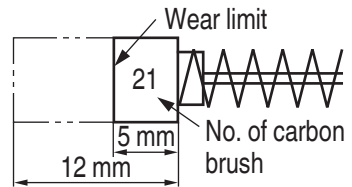

Fig. 3
3. Inspecting the carbon brushes (**Fig. 3**)